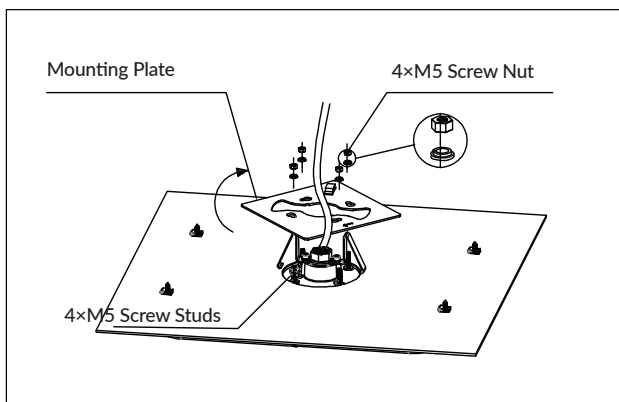

Figure 5
- Rotate the Mounting Plate into position and secure it by tightening the M5 Screw Nuts with their Spring and Plain Washers (Figure 5).